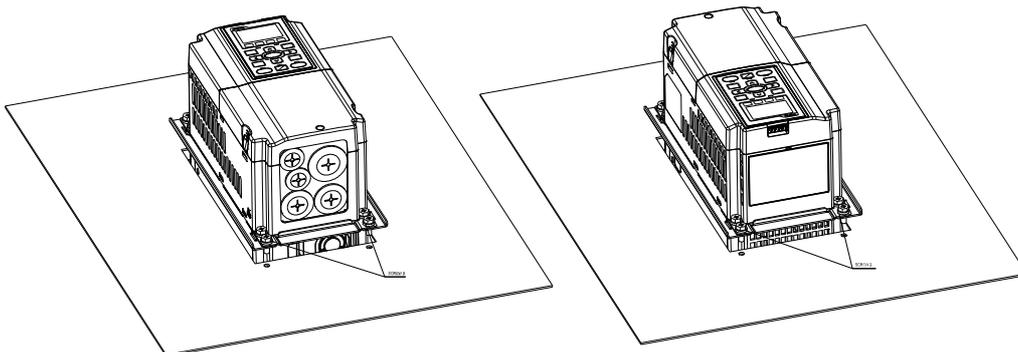

Figure 4
4. Plate installation, place 4 of the screw 2 (M6) (figure 4) through accessory 2&3 and the plate then fasten the screws. Screw torque: 25~30kg-cm (21.7~26lb-in).